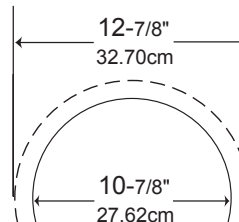

Figure 5
1. Place the supplied Hole Cutting Template to the desired mounting location in the ceiling and trace the outside edge of the template onto the mounting surface. Refer to figures 5 and 6.